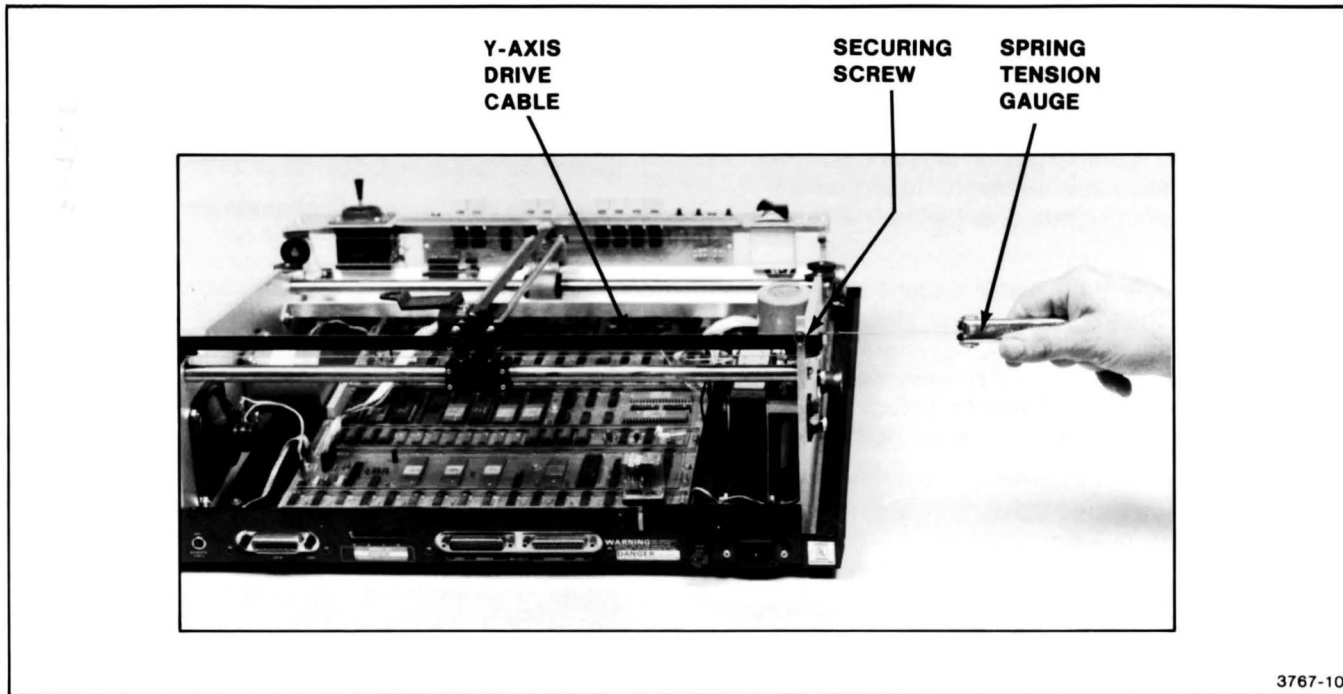

Figure 2-4. Y-Axis Pen Drive Cable Tension Adjustment.
3. **Attach** the push-pull scale to the looped end of the Y-axis cable (see Figure 2-4). This cable has a smaller diameter than the X-axis cable and its loop is usually located in the left-rear corner as viewed from the front of the plotter. If the cable does not have a loop, simply tie a knot (such as a bowline knot) in the cable to provide a loop.